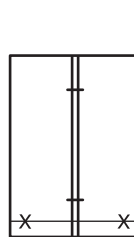

Figure 4.
9. Wrap the chromatography paper into a cylinder, and slightly overlap the blank ends. Staple, being careful not to disrupt the samples (see Figure 4).